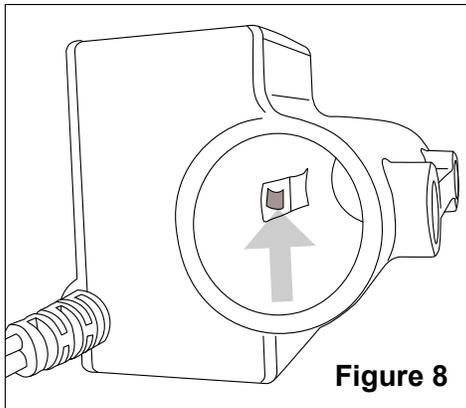
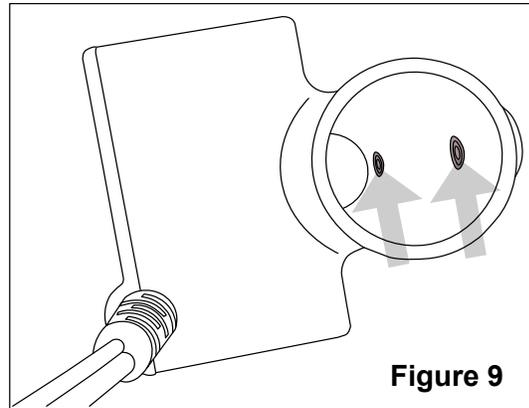
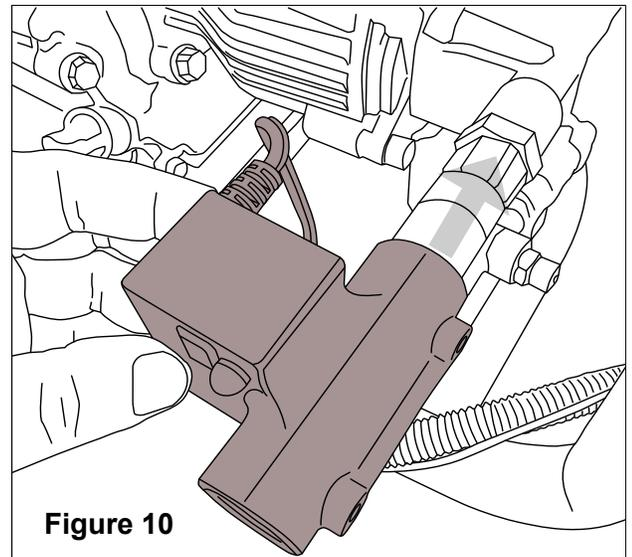

Figure 8
Figure 9
Figure 10
2. Read the NOTICE on page 3, observe the contact inside the sensor (Figure 8), make sure the set screws do not stick out past the inside of the sensor (Figure 9), then hold the sensor upright and level and slide it onto the inlet tube making sure not to twist the sensor while it is on the inlet tube (Figure 10).
The contact (Figure 8) and the set screws (Figure 9) located inside the water sensor can damage the foil contact strip on the inlet tube if the sensor is twisted or rotated during installation. To avoid damaging the inlet tube during installation, make sure the set screws do not stick out inside of the sensor body, hold the sensor upright and level then slide it straight onto the inlet tube. **DO NOT** rotate the sensor while sliding it onto the inlet tube.